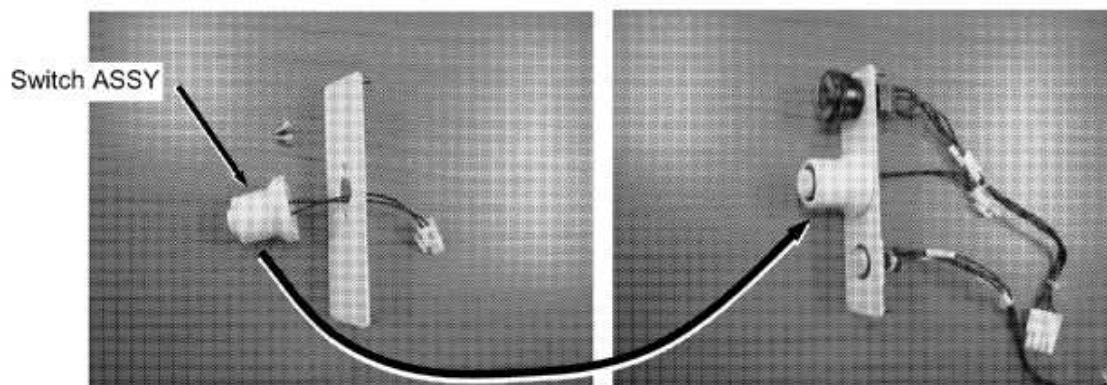

Fig. 6. 9
3. Install the disassembled switch ASSY on the panel.(Fig. 6. 9)